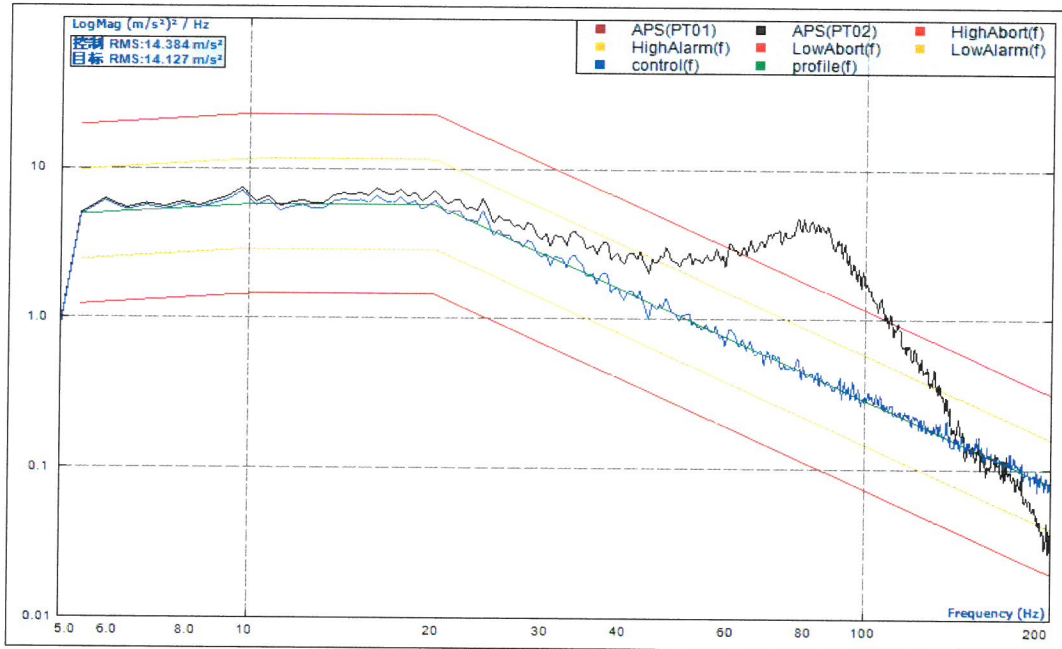

Fig.9 Show the PSD profile of Z axis
- Fig.9 Show the PSD profile of Z axis.